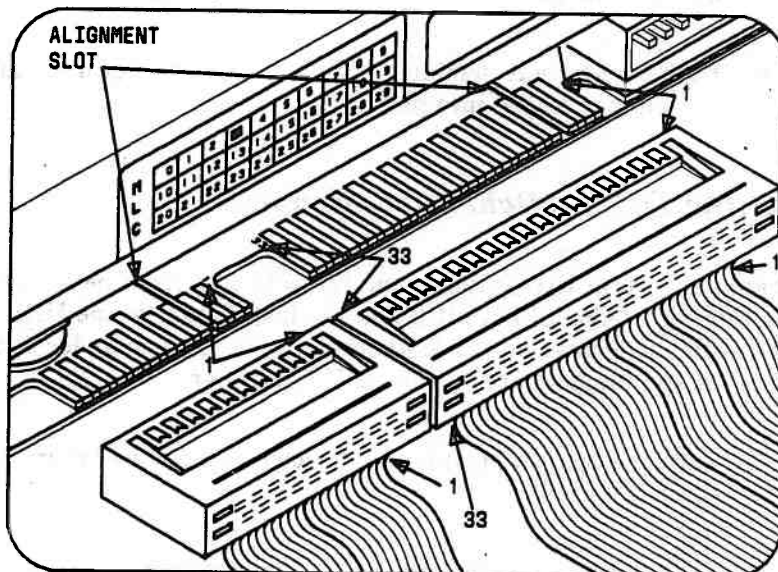

Figure 3-29. Connecting Ribbon Cables to HDU
5. Connect the other end of the small ribbon cable to the 20-pin connector on the rear of the HDU, ensuring that the numbers on the cable connector correspond with those on the HDU connector (Figure 3-29).
6. Connect the larger ribbon cable to the 34-pin connector on the rear of the HDU, ensuring that the numbers on the cable connector correspond with those on the HDU connector (Figure 3-29).